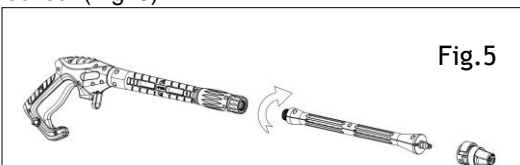

Fig.5
5. Screw the spray lance into the trigger gun and rotate it until the two parts are completely locked. (Fig. 5)